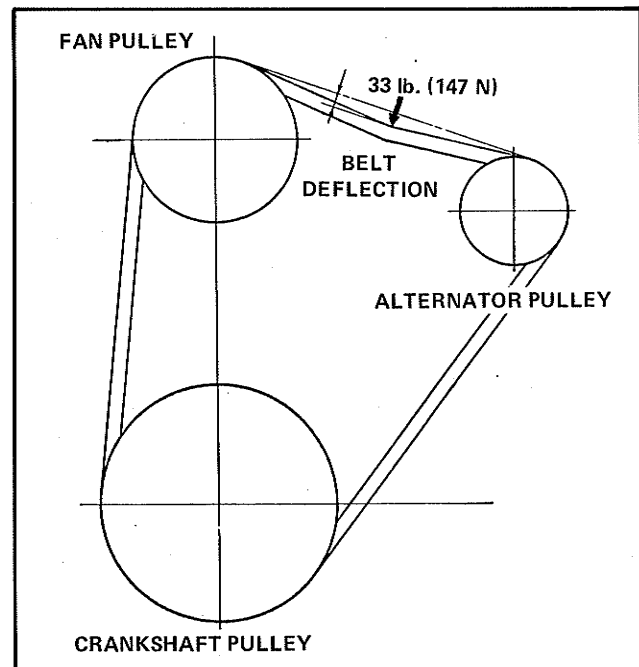

FIGURE 34A
**FAN BELT ADJUSTMENT (Figures 34A & 35)**